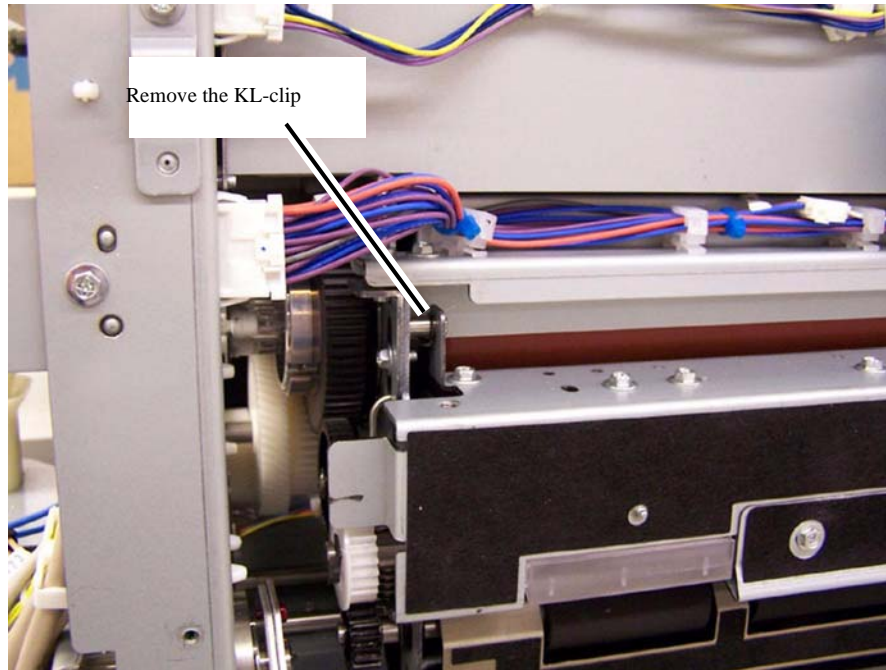

Figure 4 KL-clip location is on the pivot pin at the right rear of the Printer
6. Remove the KL-clip from the pivot pin (Figure 4).